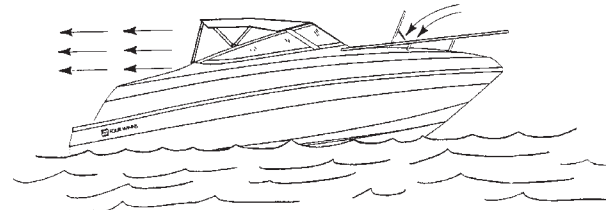

Figure B11: Desired air flow through the boat.
4. Opening and closing ports, hatches, doors, and windows may raise or lower CO levels on board a boat. When airflow is moving forward inside the boat, CO may be entering the boat. See Figures B11 and B12.